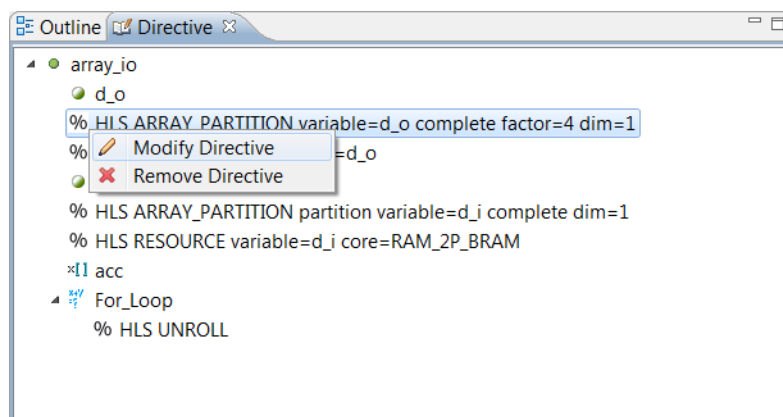

Figure 4-24: Modifying the Directive for `d_o`
4. In the Directive tab, select the existing partition directive for `d_o` as shown in Figure 4-24.